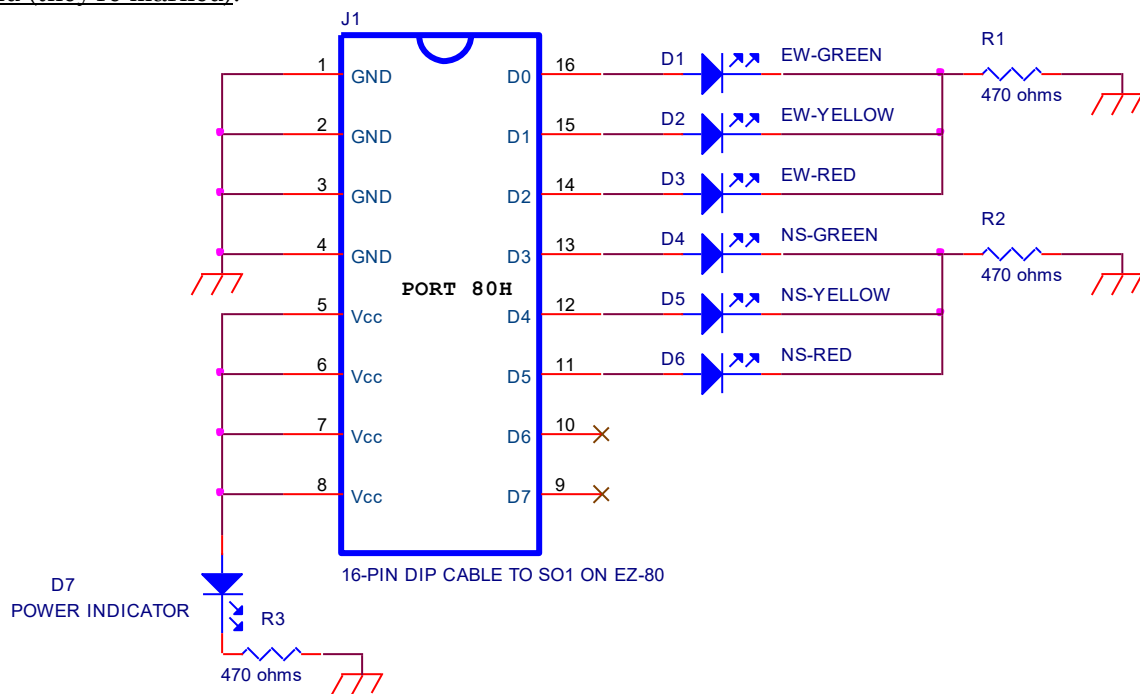

Figure 1: Traffic Light Circuitry
1. Construct the circuit of Figure 1 on a solderless breadboard. It will be helpful to first install one end of the DIP cable onto your breadboard. Pay close attention to the orientation of the pins on the cable end (they're marked).